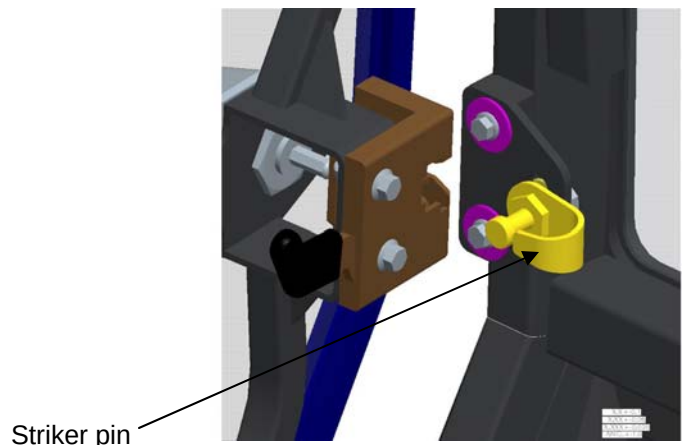

Figure 6.
6. Loosen striker pin on cab and gently close the door and see where the striker pin should be located to keep the door closed tight. Figure 6. Once located in it's proper location, tighten all hardware and then repeat steps 1 thru 6 for opposite side door.